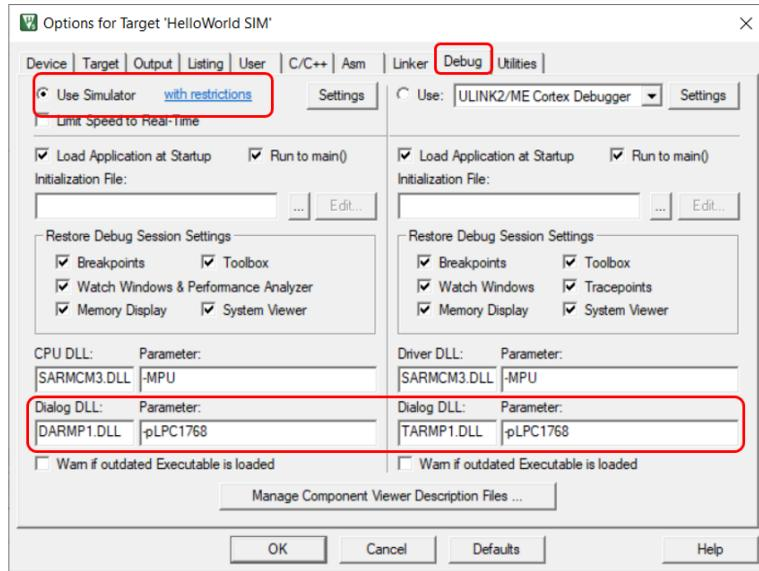

Figure 8.17: Keil IDE: Target Options Debug Tab Configuration
1. Open up the target option window and select “Use Simulator” in the Debug tab and set the Dialog DLL and Parameters as shown Figure 8.17.